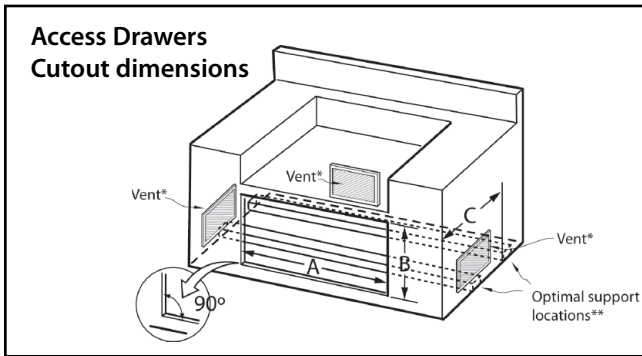

FIG. 06
It is required that a minimum of (3) 10 sq. inches of ventilation opening be provided for both the left and right sides, as well as the back of enclosure (Fig. 06 and 07), in order to safely dissipate unburned gas vapors in the event of a gas supply leak.
Note specific built-in enclosure ventilation requirements. See text and Fig. 06.